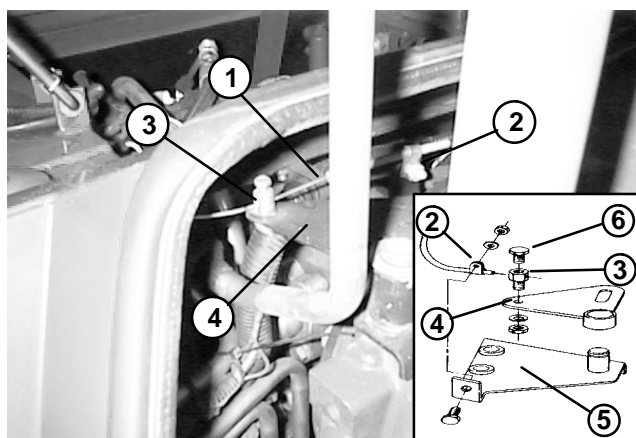

Figure 24
11. Disconnect throttle control cable from the swivel lever and R-clamp from the engine plate (Fig. 24).
6. Connect throttle control cable to the swivel lever. Secure cable to engine plate with R-clamp (Fig. 24).
17. Adjust control cable throttle cable (Fig. 24).